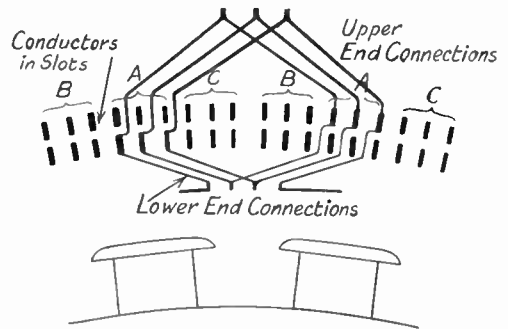

Fig. 12.—ARRANGEMENT OF END CONNECTIONS OF THREE-PHASE, 25-CYCLE ALTERNATOR AT LILLA EDET.
carried out at the power station) would be (1) re-arranging, re-connecting and re-insulating the end connections without disturbing the conductors in the slots; (2) replacing the present 48 poles and field coils with 96 new poles and field coils. The present stator winding is of the double-layer type with the end connections arranged as shown in Fig. 12. If this winding is to be reconnected for 50